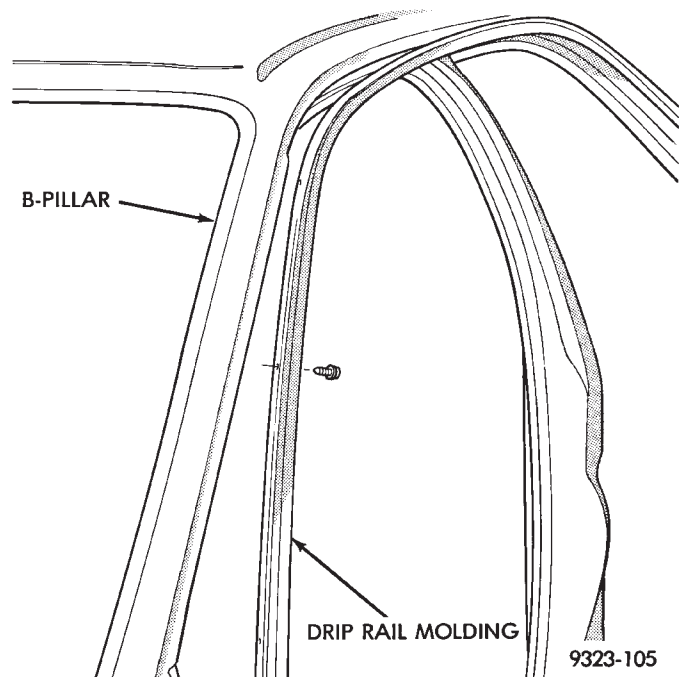

Fig. 52 Drip Rail Molding
- (1) Release front door latch and open door.
- (2) Release rear door latch and open door.
- (3) Remove screws holding drip rail molding to roof rail (Fig. 52).
- (4) Separate drip rail molding from vehicle.